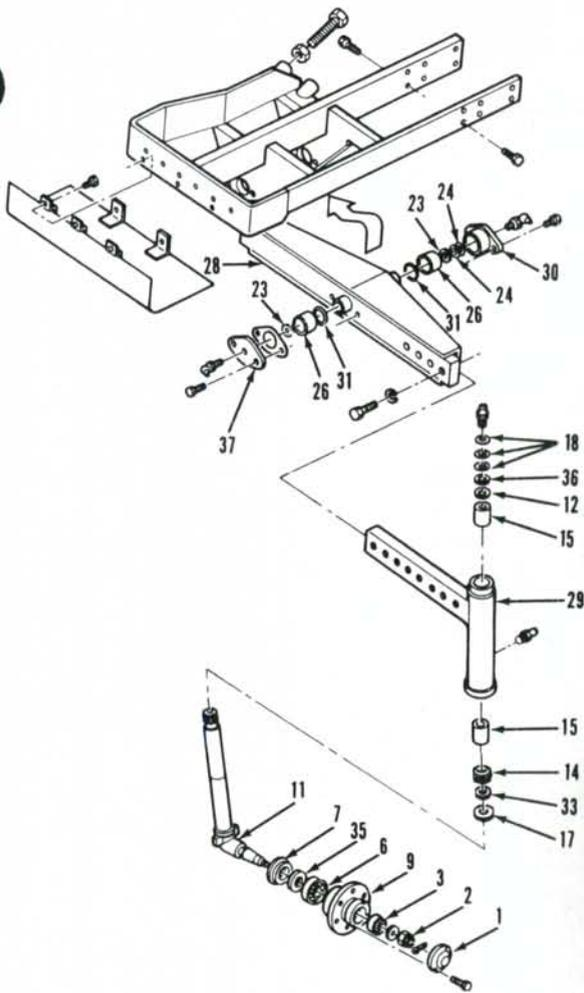
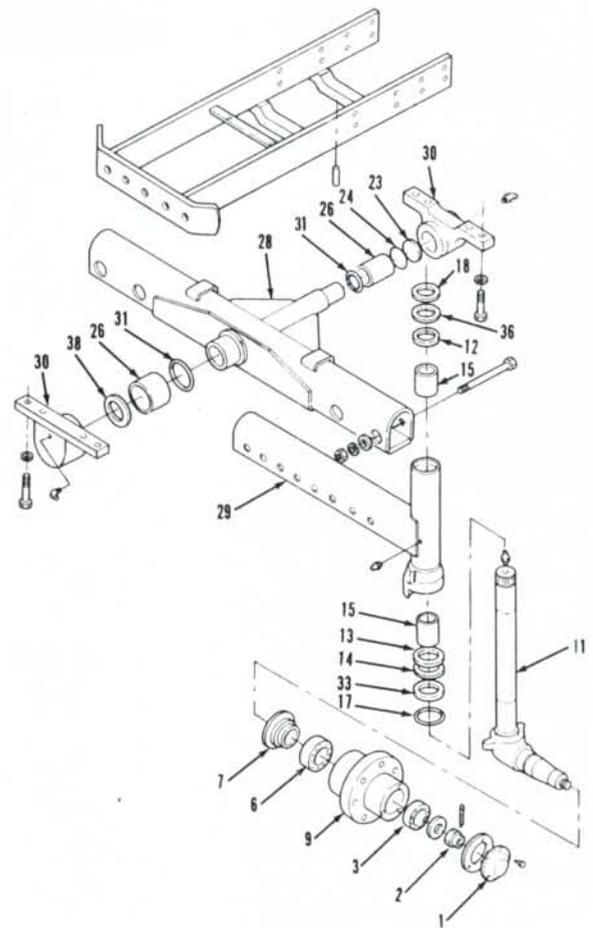

Fig. 5—Exploded view of adjustable front axle assembly used on 1710 Offset tractors. Refer to Fig. 3 for legend except for the following:
Fig. 6—Exploded view of adjustable front axle used on Model 2110.
1. The front axle may be fixed tread width type or adjustable type for 1100, 1110, 1200, 1210, 1300, 1310, 1500 and 1510 models as shown in Figs. 1, 2 and 3. The adjustable axle used on 1700, 1710, 1900 and 1910 models is shown in Fig. 4. Adjustable axle used on 1710 Offset tractor is shown in Fig. 5, and adjustable axle used on 2110 tractor is shown in Fig. 6.